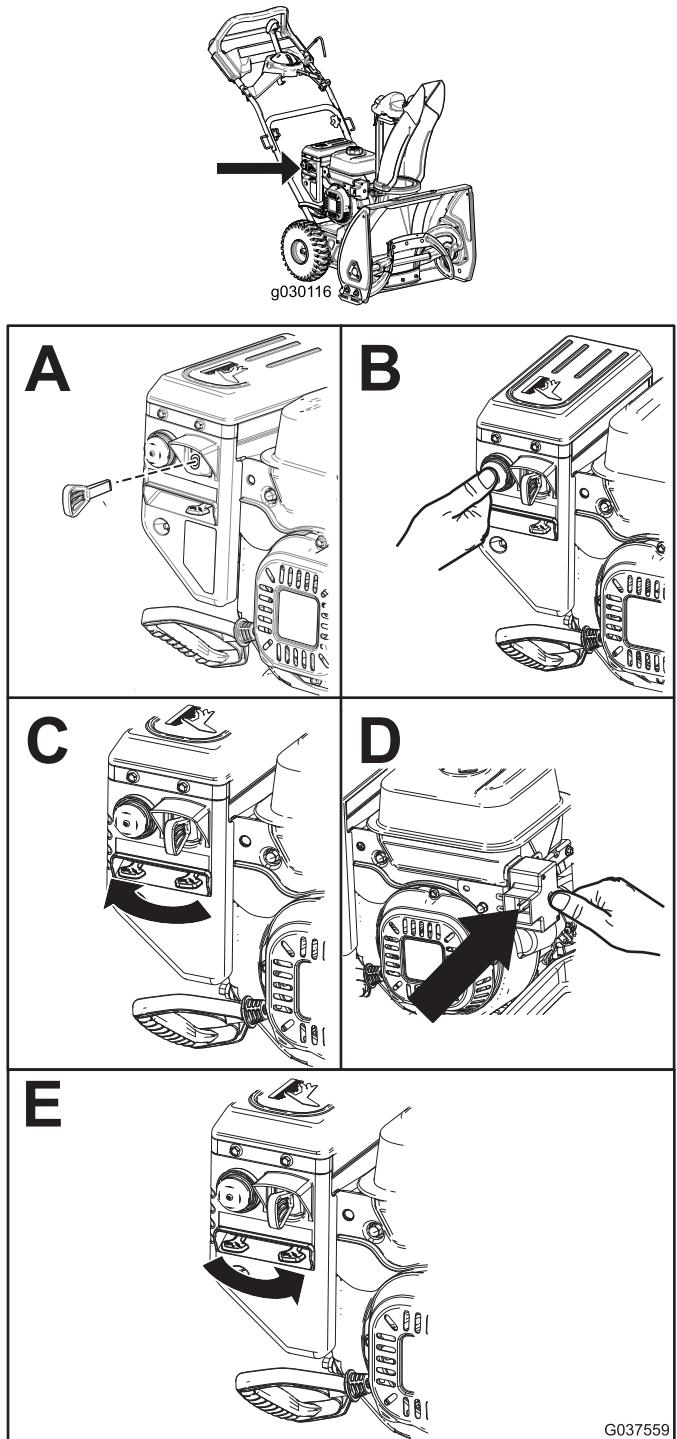

Figure 11
**Note:** Prime the engine in B of Figure 11 according to the prime table.